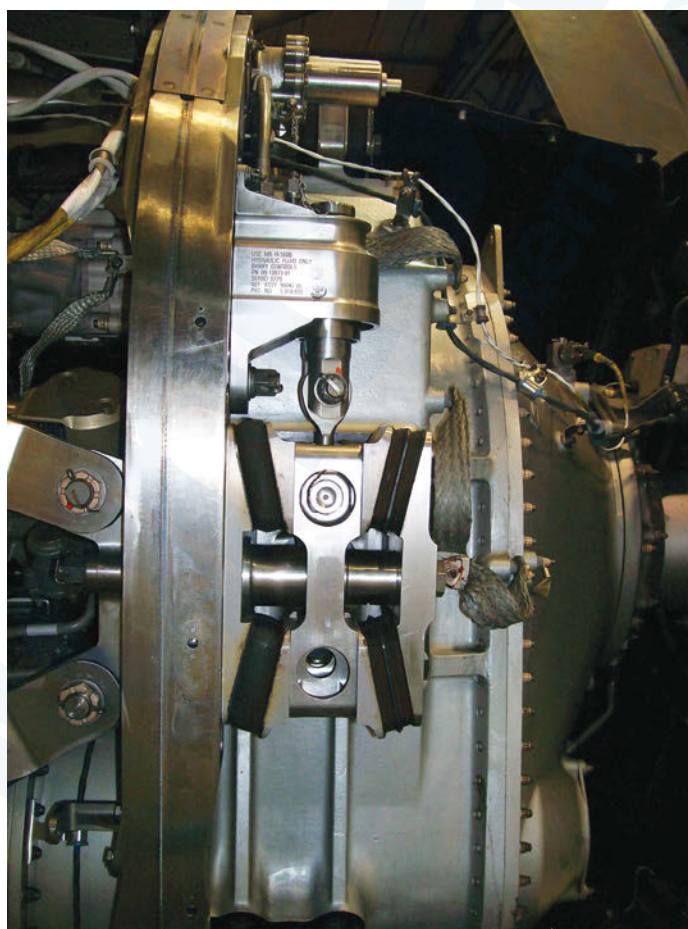

Figure 71-25. Vibration Isolator Mount
- Figure 71-25. Vibration Isolator Mount.